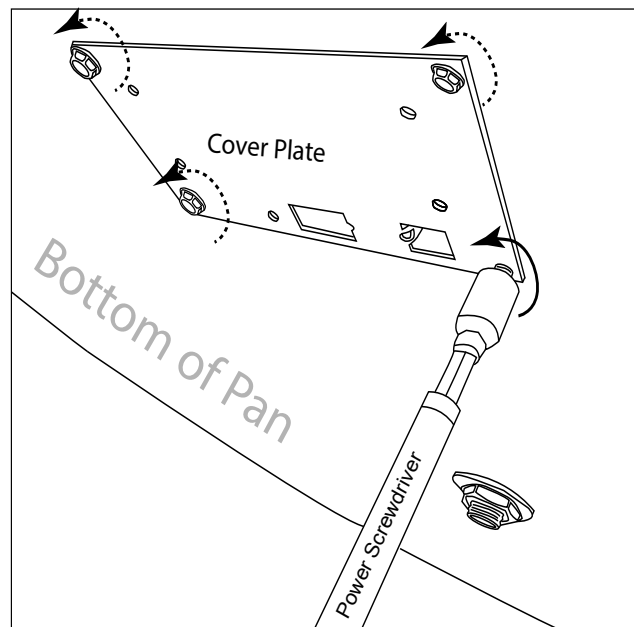

Fig. 13 Removing 4 cover plate screws.
Step 2: Invert the burner pan up side down and remove the four hex head screws from the cover plate. See Fig. 13. Discard cover plate after removal.